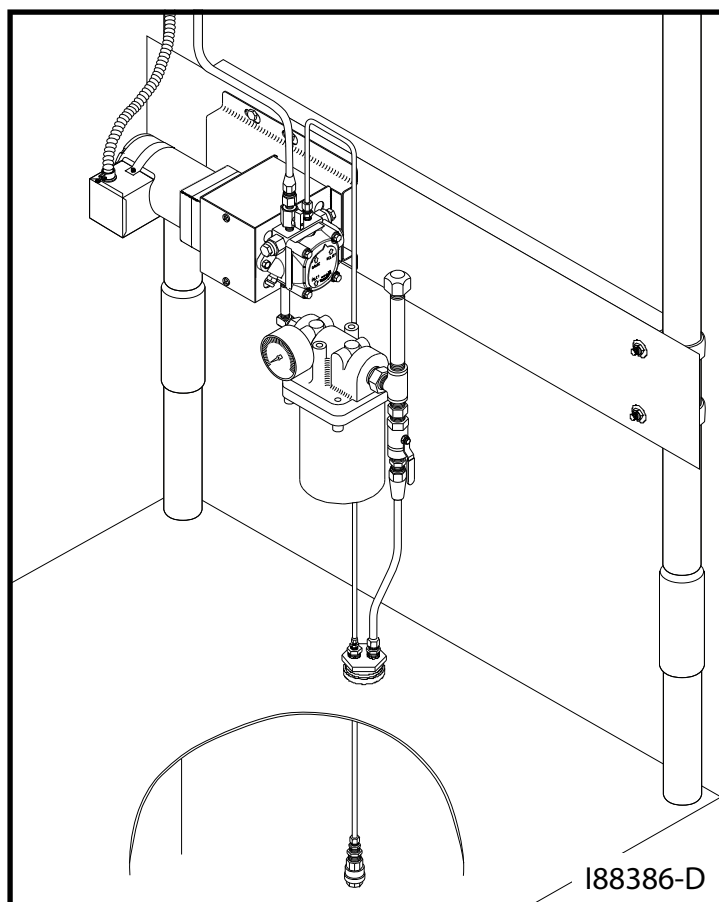

Figure 3I - Assembled Pressure Relief Oil Line
The metering pump requires the installation of a pressure relief oil line back to the tank that you are pulling oil from as shown in Figures 3I and 3J.
4. Install 1/4" O.D. copper tubing (user supplied) from the pressure relief port back to the oil tank. Refer to Figure 3I and 3J as needed.